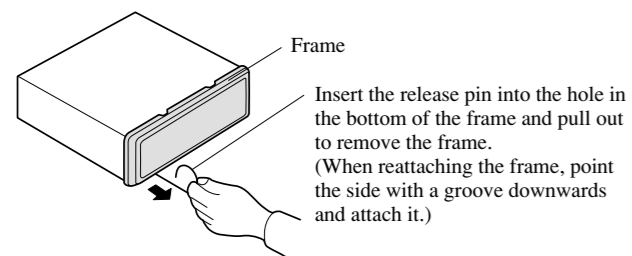

Fig. 8
**1. Remove the frame. (Fig. 8)**